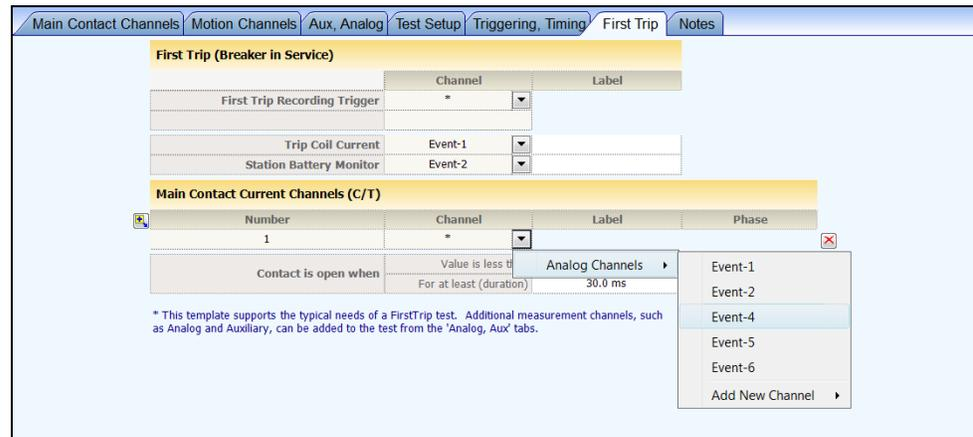

Figure 129 Main Contact Current Channels
- For each current or voltage waveform to be measured, activate an analog channel and give it a label and a phase in the Main Contact Current Channels (C/T) table of the First Trip tab (Figure 129). All analog currents are measured using Doble probes. The DC supply voltage is measured with an analog voltage channel. Activate only the channels being used.